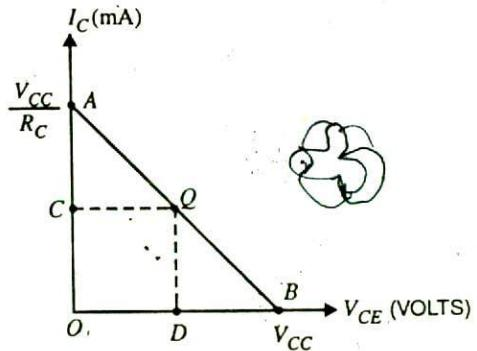

Fig. 10.29
**Importance.** The current ( $I_C$ ) and voltage ( $V_{CE}$ ) conditions in the transistor circuit are represented by some point on the output characteristics. The same information can be obtained from the load line. Thus when  $I_C$  is maximum ( $= V_{CC}/R_C$ ), then  $V_{CE} = 0$  as shown in Fig. 10.29. If  $I_C = 0$ , then  $V_{CE}$  is maximum and is equal to  $V_{CC}$ . For any other value of collector current say  $OC$ , the collector-emitter voltage  $V_{CE} = OD$ . It follows, therefore, that load line gives a far more convenient and direct solution to the problem.